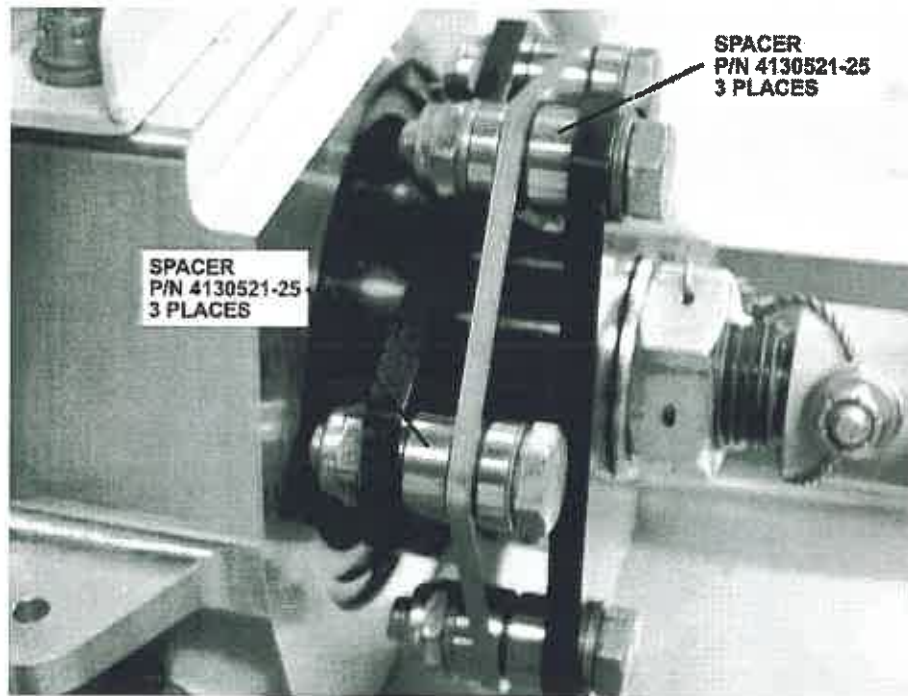

Figure 17 - Aft Coupling Normal Installation
1. Reassembly the lower pulley aft coupling using .250 inch spacers, P/N 4130521-25, between the flex pack and the flanges of the hub and the pulley shaft (See Figure 17).